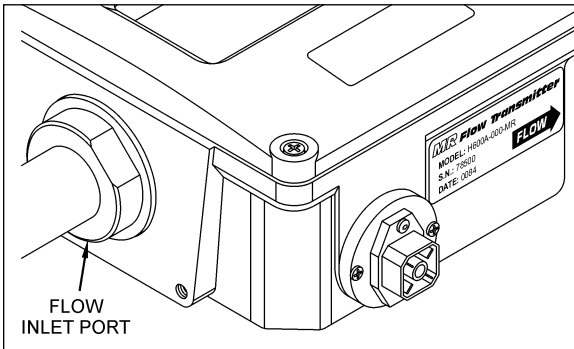

Figure 5 - Flow Direction Arrow
Do - Ensure the fluid is traveling in the direction of the flow arrow (**Figure 5** on page 6).
4. Mount the transmitter so fluid is traveling in the direction of the flow arrow. See **Figure 5**.